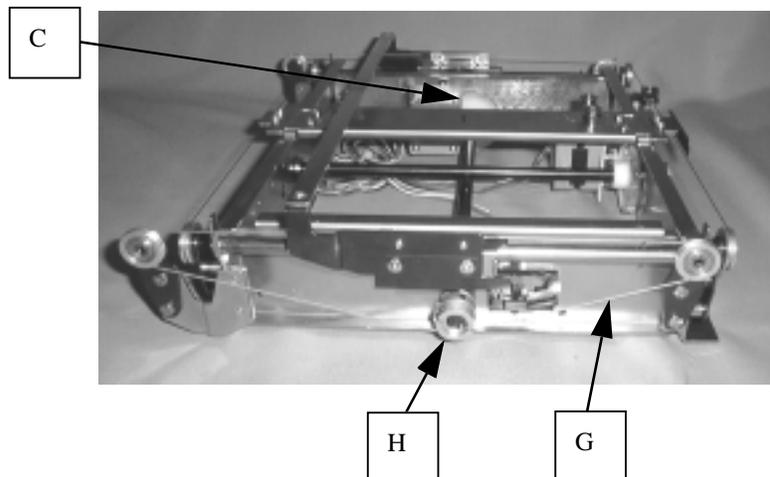

FIGURE 13-3
3. The gear (C) shown in Fig. 13-3 is protruded from the bottom face of the X-Y mechanism. Insert a bolt by nut (D), so that the gear (C) is free of being scratched when erecting the X-Y mechanism as shown in Fig. 13-3.
- Work (1)-(3) are applicable when removing the X-Y mechanism from the baseplate does repair or adjustment.
4. Fix the wire (G) being wound on pulley (H) securely by using grip band (I) so that wire (G) hooked to the wire pulley (F) to be replaced is not loosened from the the pulley (H) as shown in Fig.13-3,4.